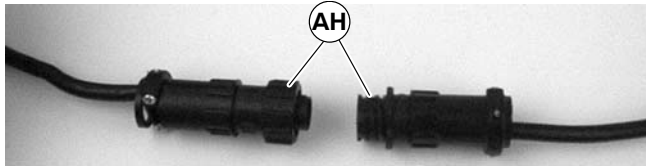

Figure 17
3. For DC variable speed motor, unplug motor cord at disconnect (AH of Figure 17).